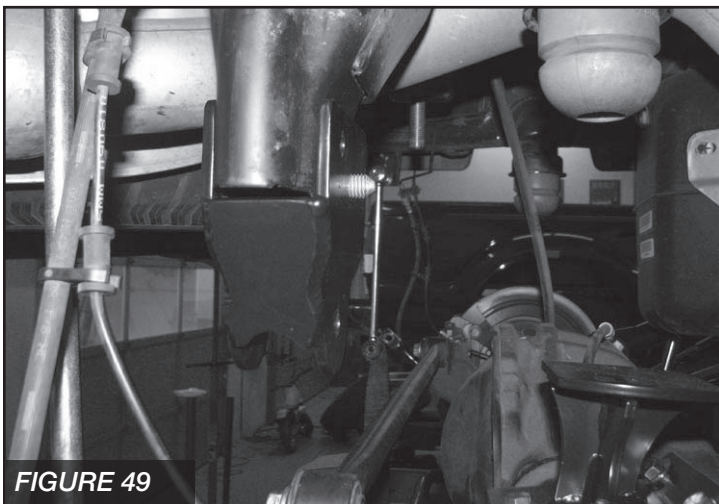

**FIGURE 47**
65. Remove the factory upper links arms and discard the links. Save the hardware. Install the new Upper Link Arms into the factory rear axle mounts with the factory hardware. Then attach the arm to the frame mounts also with the factory hardware. Torque to 160 ft.-lbs. **SEE FIGURE 47**